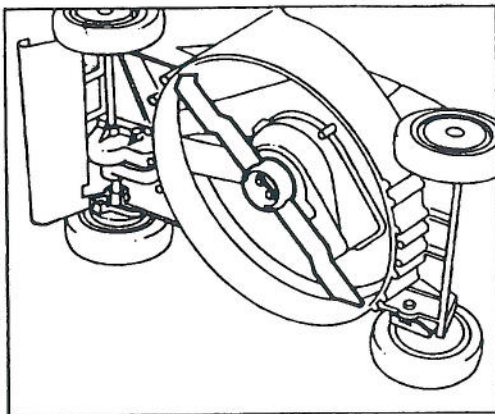

Figure 20
3. Tip mower on its left side (Fig. 20). Avoid rotating blade. Starting problems may result.
5. REMOVING BLADE — Grasp end of blade using a rag or thickly padded glove. Remove blade nuts, anti-scalp cup and blade (Fig. 20).